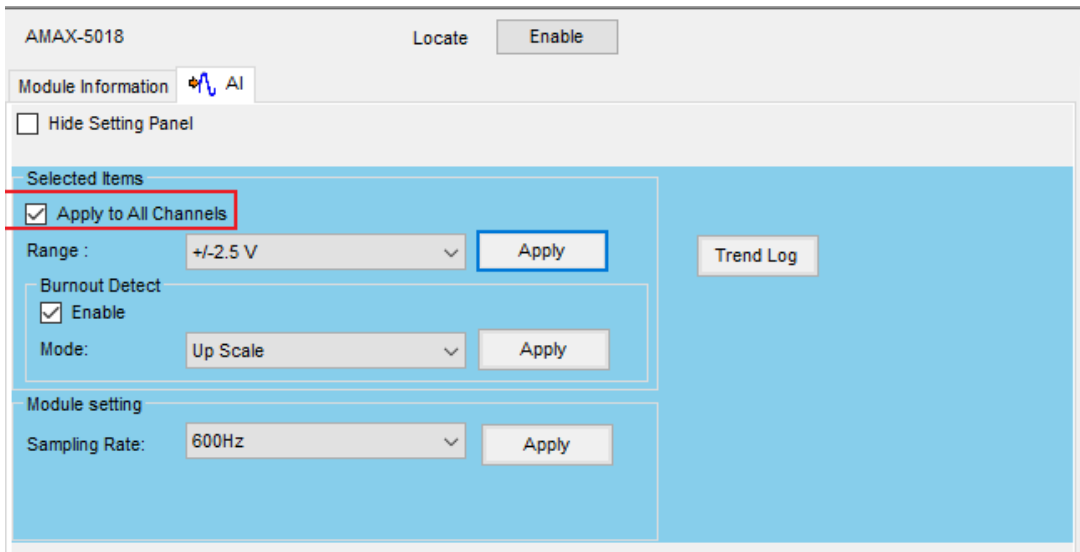

Figure 4.15 Apply the Change for All Channels of This SubDevice
- Select the range $\pm 2.5V$ and click the Apply button. Users also can apply the setting to all channels (Figure 4.15).